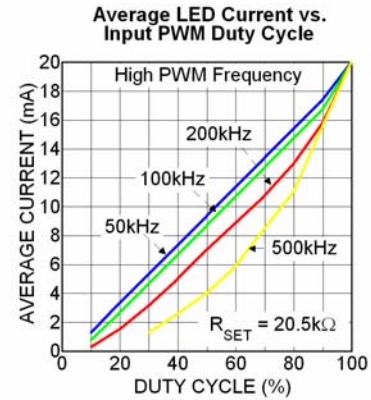
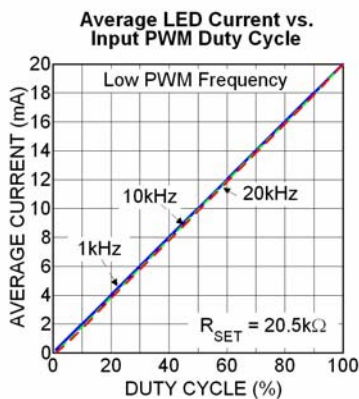
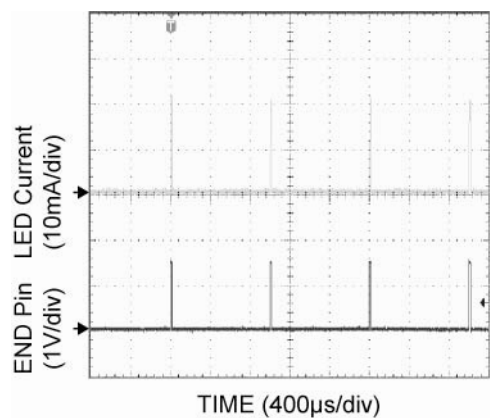

Figure 4. Channel Current Response to PWM Control Signal Frequencies from 50kHz to 500kHz
Figure 3. Average Current per LED Dimming by Changing PWM Duty Cycle for PWM Frequencies up to 20kHz
Figure 6. PWM Signal at 1% Duty Cycle ( $I_{avg} = 0.2mA$ )
WLED dimming is achieved by pulse width modulating the linear drivers which are controlled by a PWM signal to the END pin. For PWM frequencies between 200Hz – 20kHz the MIC2843A supports a duty cycle range from 1% to 100%, see Figure3. The MIC2843A incorporates an internal shutdown delay to ensure that the internal control circuitry remains active during PWM dimming. This feature prevents the possibility of backlight flickering when using low frequency PWM control signals. The MIC2843A also supports Ultra Fast PWM™ frequencies from 20kHz to 500kHz. Due to input signal propagation delay, PWM frequencies above 20kHz have a non-linear relationship between the duty cycle and the average LED current, see Figures 4 and 5. Figures 6 through 10 show the WLED current response when a PWM signal is applied to the END pin (1).